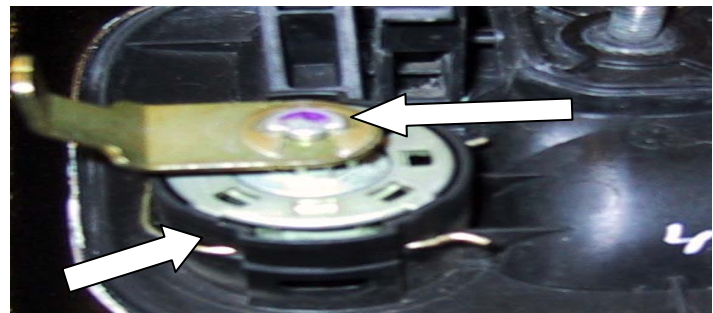

Fig. C-1
- ➔ **Step 1:** Remove "C" from the connector arm of the lock tumbler. (see fig. C-1).
- ➔ **Step 2:** Remove Retaining pin from the base of the lock tumbler. (see fig. C-1).